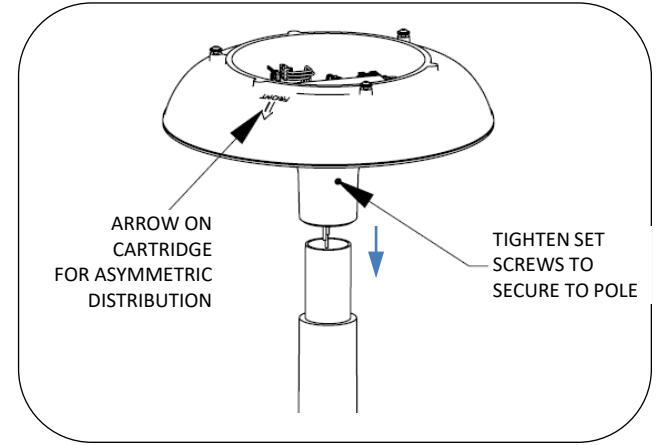

Fig. 6 – Install luminaire on pole
6. Install luminaire by placing over tenon mount and tightening set screws in luminaire stem, see Fig. 6. Pull supply wires through opening in luminaire.